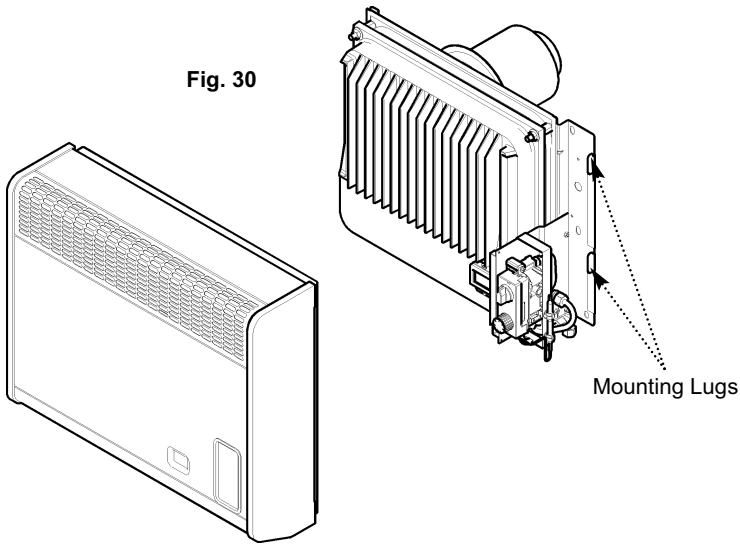

Fig. 30
3. Remove the case by easing upward and forward until it is clear of its retaining lugs (Fig. 30).